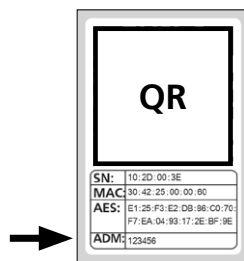

Fig. 3
- 3 A prompt will appear asking you to scan the cylinder QR code provided using your smartphone camera. The QR code is on the sticker enclosed in the packaging (Fig 3).
Attention: The set comes with two QR code stickers, one for the cylinder and one for the keypad. You can identify the QR code required here for the cylinder by the administrator code at the bottom of the sticker, marked „ADM“ (Fig. 3).